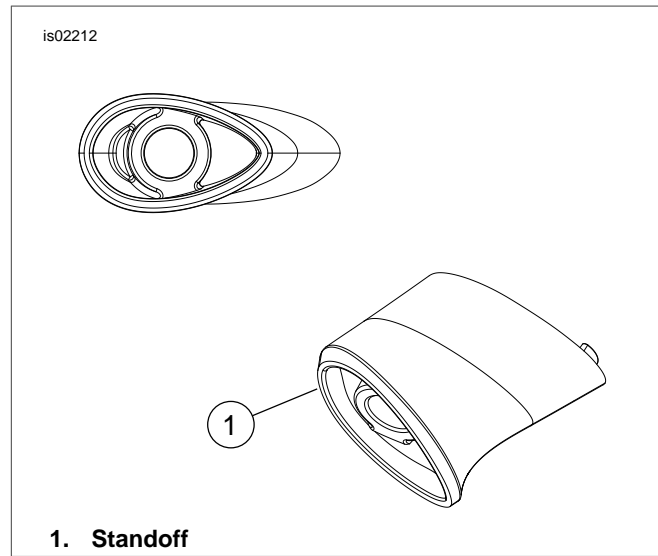

Figure 3. Turn Signal Standoff
9. See Figure 3. Obtain a **new** turn signal standoff (1) from the kit (both are identical)(Note orientation). Feed the wires from one turn signal lamp into the end of the standoff, through the **triangular** opening. **DO NOT** feed the wires through the **round** mounting hole in the standoff.